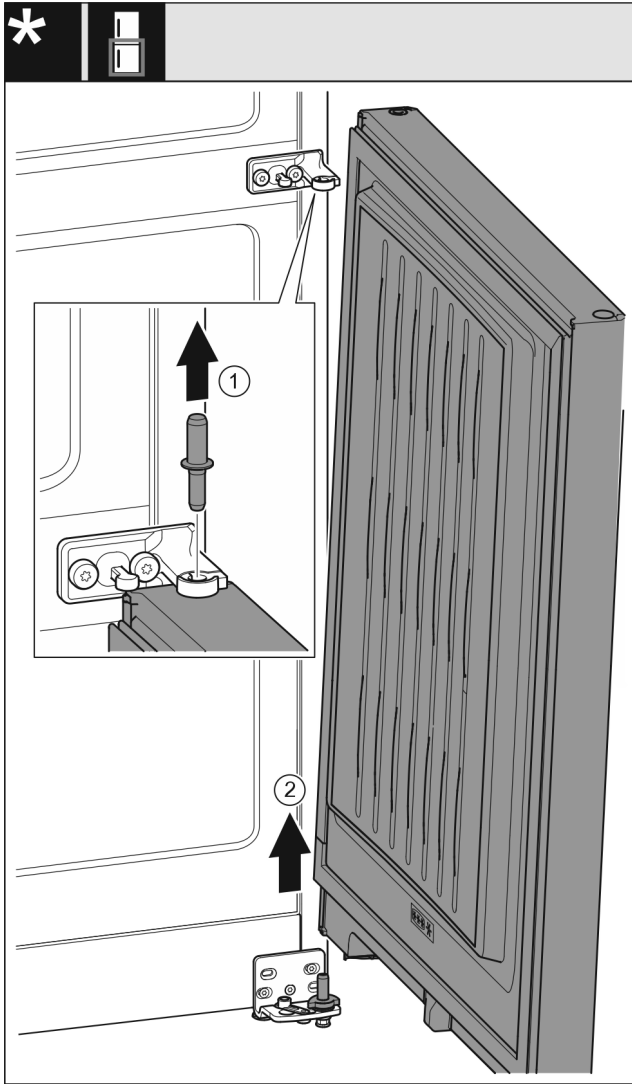

Fig. 11 Without closing damper
- ▶ Pull out the bolt Fig. 11 (1) upwards.
- ▶ Swing out the door Fig. 11 (2), pull it upwards and set it aside.